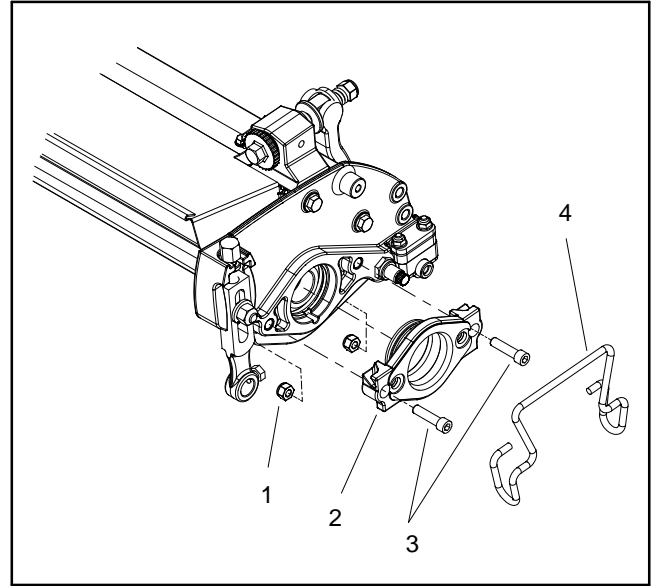

Figure 27
3. Remove reel motor adapter from cutting unit side plate using Fig. 27 as a guide.
2. Install reel motor adapter to cutting unit side plate using Fig. 27 as a guide.